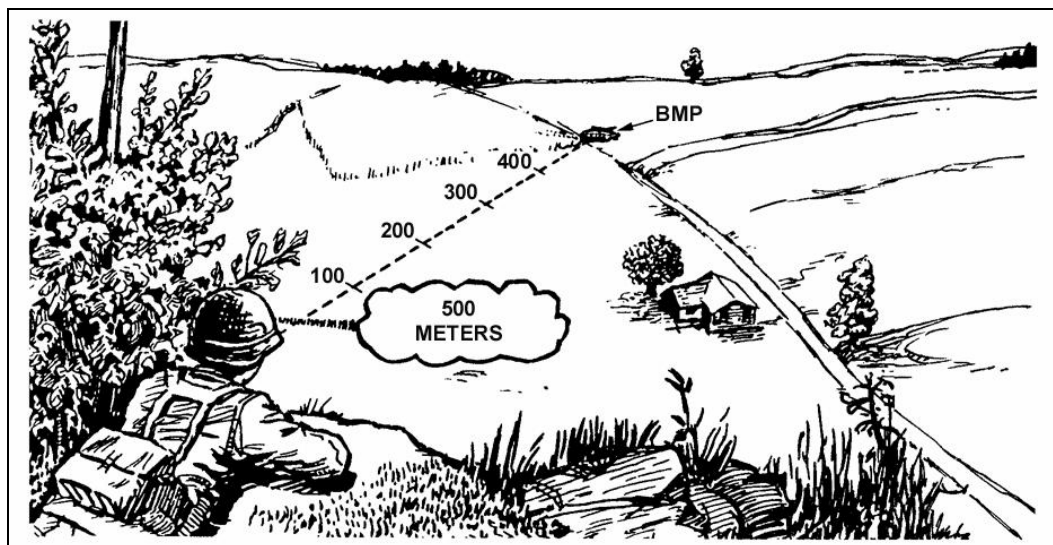
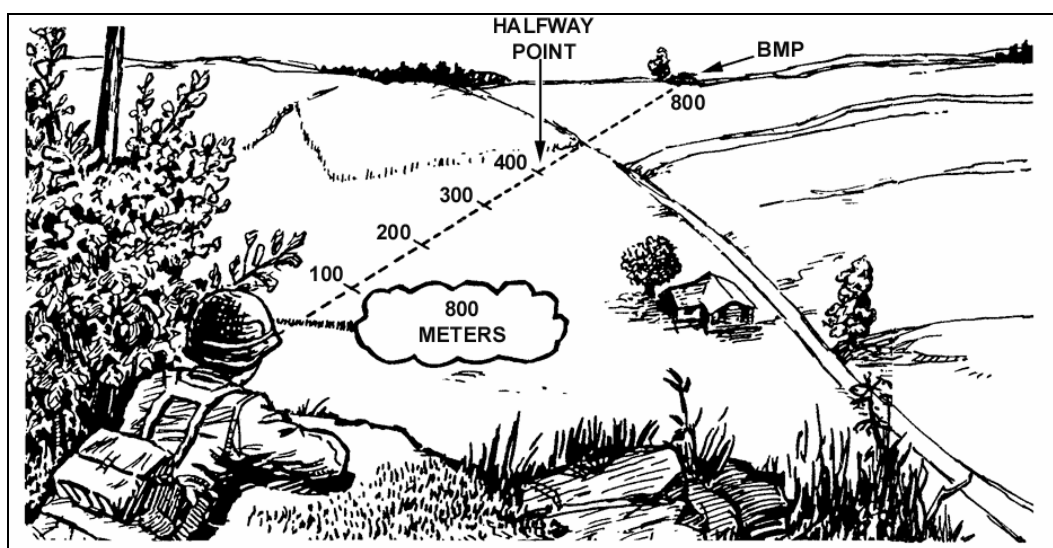

Figure 5-4. Application of the 100-meter unit-of-measure method for ranges up to 500 meters.
Figure 5-5. Application of the 100-meter unit-of-measure method for ranges greater than 500 meters.
a. Using the 100-meter unit-of-measure method, visualize 100 meters on the ground (this takes practice) and determine how many units of 100 meters there are to the target (Figure 5-4). For targets more than 500 meters (5 units) away, pick a point about halfway, estimate the range to that point, and double it (Figure 5-5).